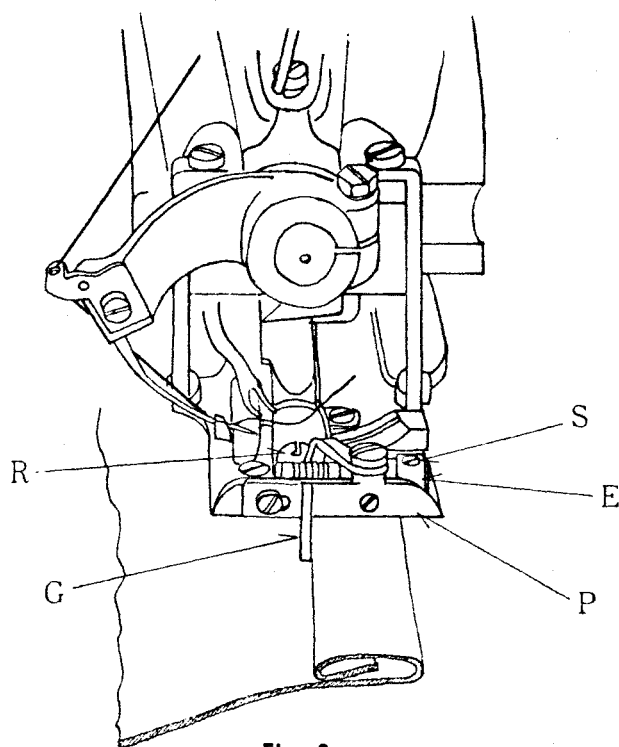

Fig. 3
Apply knee pressure to the knee lifter to separate the work arm from the head. Insert the work in the gap just opened in such a manner that the folded or sewn edge of the article is alongside the guide "G" of the presser foot "P" (See Fig. 3, below).
f. The Cloth Retainer "R" (Fig. 3, page 3) is to be set as close to the needle as possible. To adjust, loosen set screw "S" and turn eccentric "E". Eccentric "E" can be slid in and out for the purpose of centering the retainer above the rib which forms the material in preparation of the stitching.